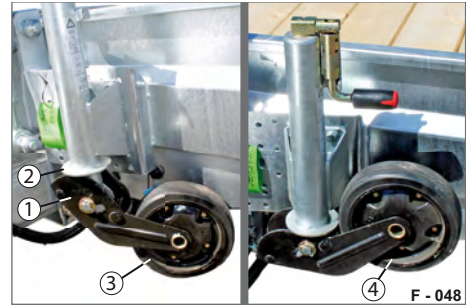

Fig. 29 Crank/support wheel in drive position
- ▶ Crank clockwise until the console (Fig. 29/1) moves over the collar (Fig. 29/2) and the support wheel (Fig. 29/3) moves upwards.
- ▶ Completely raise the support wheel (Fig. 29/4).